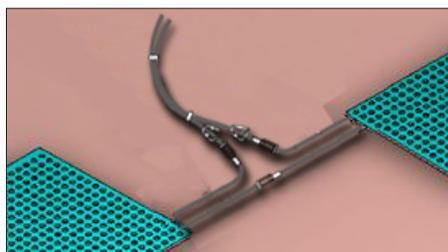

Figure 1B: Localized Temperature Therapy System with Multiple Pads.
**Note:** Refer to Figure 1B on page 2 when connecting multiple pads.